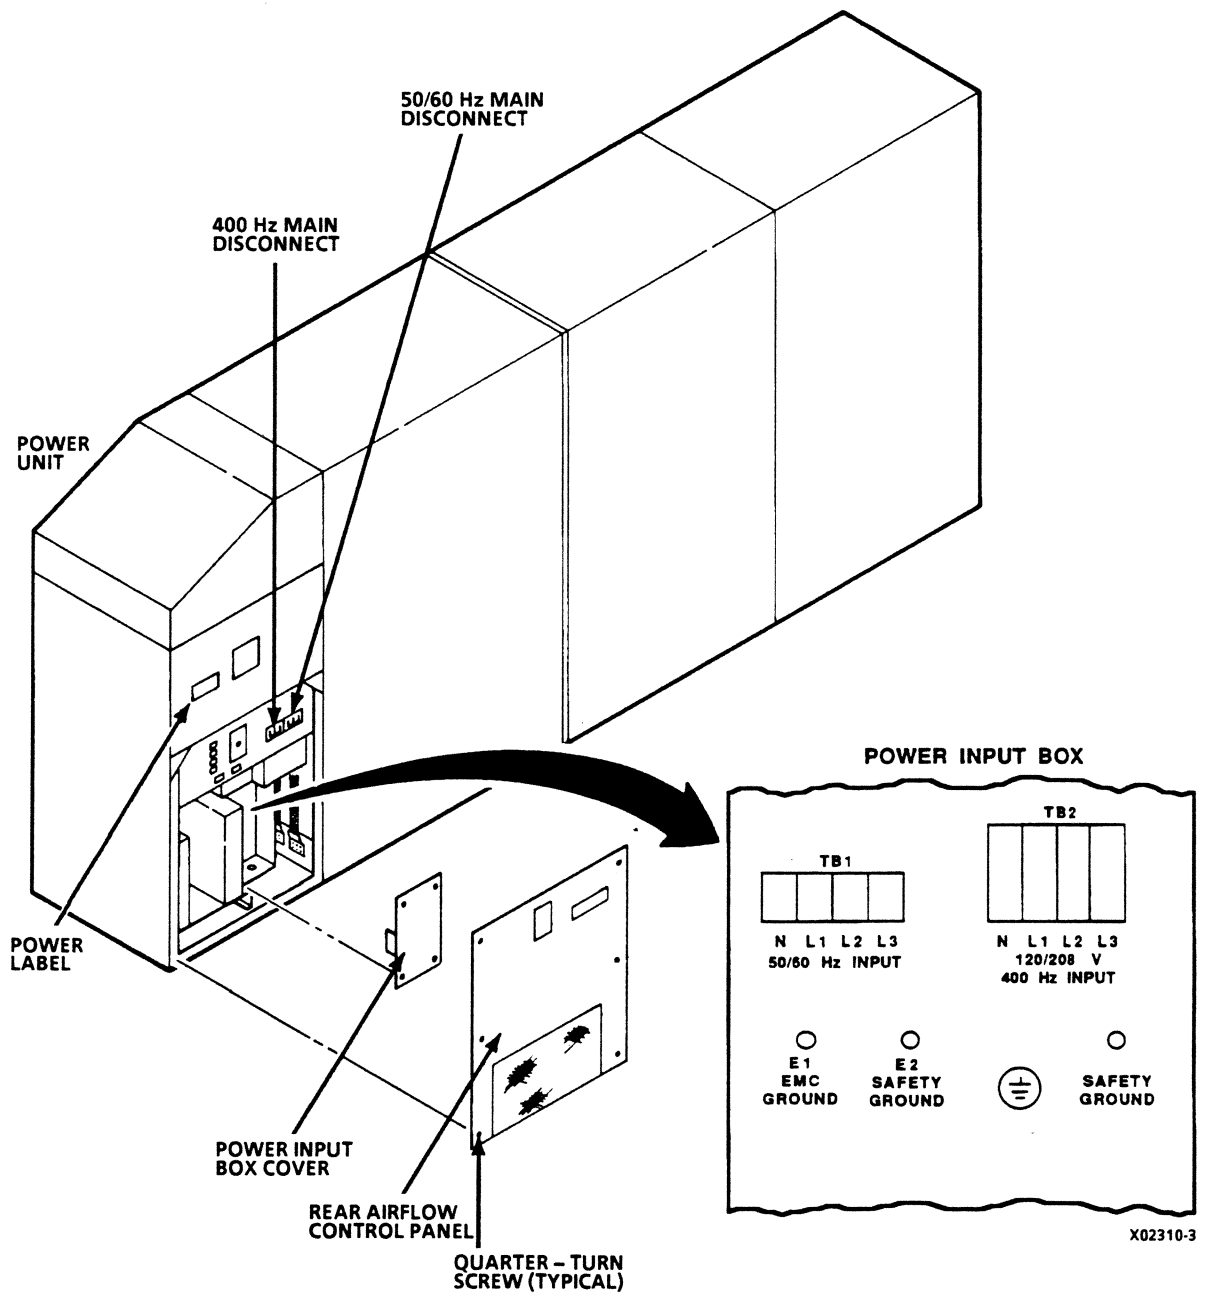

Figure 2-61. Power Unit 400-Hz Input Voltage Check
- ___ 3. Check that keyswitch on main control panel on front of power unit is set to LOCAL MODE (figure 2-61)